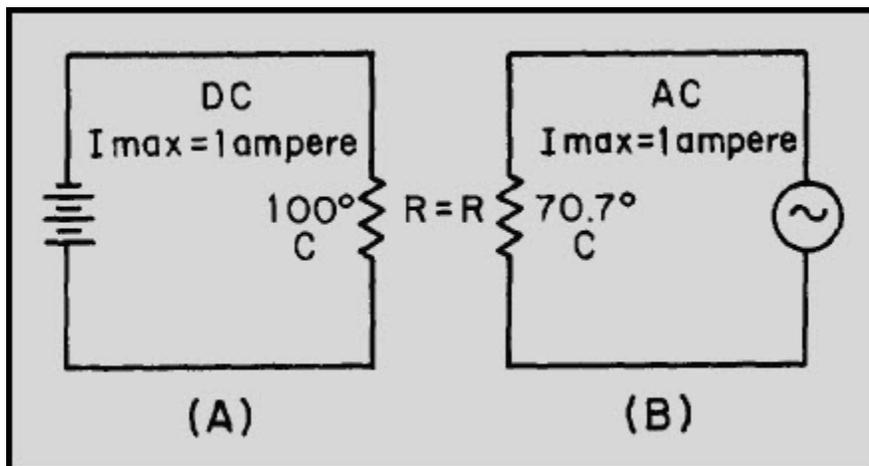

Figure 1-15 Heating effect of ac and dc
Figure 1-15 compares the heating effect of 1 ampere of dc to the heating effect of 1 ampere of ac.
Examine views A and B of figure 1-15 and notice that the heat (70.7°C) produced by 1 ampere of alternating current (that is, an ac with a maximum value of 1 ampere) is only 70.7 percent of the heat (100°C) produced by 1 ampere of direct current.
Stated another way, the effective or rms value (I_{eff}) of a sine wave of current is 0.707 times the maximum value of current (I_{max}). Thus, $I_{\text{eff}} = 0.707 \cdot I_{\text{max}}$. When I_{eff} is known, you can find I_{max} by using the formula $I_{\text{max}} = 1.414 \cdot I_{\text{eff}}$. You might wonder where the constant 1.414 comes from. To find out, examine figure 1-15 again and read the following explanation. Assume that the dc in figure 1-15(A) is maintained at 1 ampere and the resistor temperature at 100° C. Also assume that the ac in figure 1-15(B) is increased until the temperature of the resistor is 100° C. At this point it is found that a maximum ac value of 1.414 amperes is required in order to have the same heating effect as direct current. Therefore, in the ac circuit the maximum current required is 1.414 times the effective current. It is important for you to remember the above relationship and that the effective value (I_{eff}) of any sine wave of current is always 0.707 times the maximum value (I_{max}).